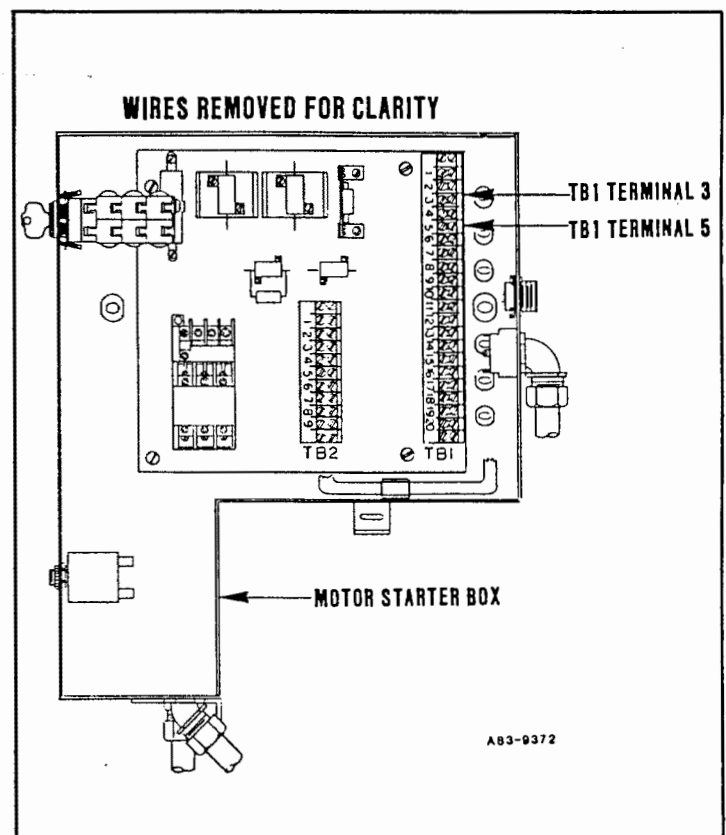

Figure 8.12 A
3. Check very carefully for broken or loose wires in the motor starter box, especially around TB1 terminals 3 and 5 (see Figure 8.12 A). If any broken or loose wires are found, repair them and then recheck the press.
7. Use Table 8.12 A and preceding Figure 8.12 A for this step: